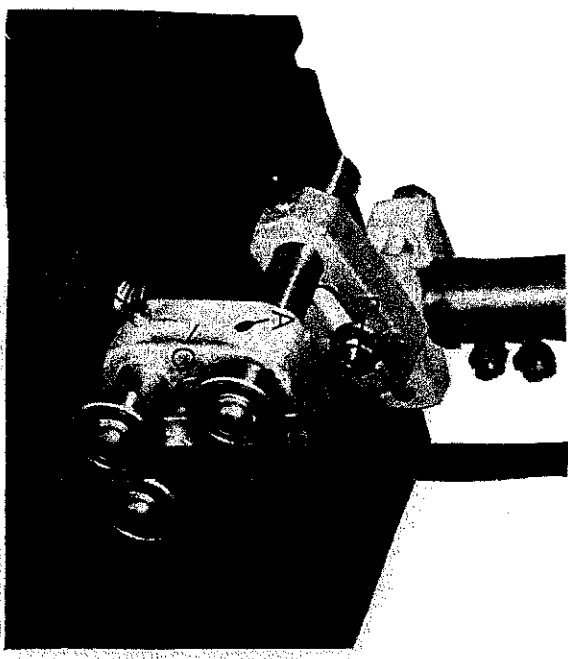

FIG 12
A sawguide unit "A", FIG. 12, is fitted above the table and is fully adjustable for adequate sawblade support. The unit is fitted with ~~THREE~~ support blocks and a long life bearing.
3. Loosen grubscREW "A" and M10 nut "B", FIG. 12. then position guide body "C" central and parallel to blade ~~SEE~~ FIG. 13, then tighten up grubscREW "A" and M10 nut "B", FIG. 12.
4. Slacken thumb screw "Y" FIG. 12, and set rear guide roller $1/64$ " clear of back of blade, lock up thumb screw "Y".
5. Slacken thumb screws "X" FIG. 12, and move side guide forward as positioned in FIG. 14, then pivot side guide rollers on anti lock eccentrics just clear of blade FIG. 13, and lock thumb screws "X"